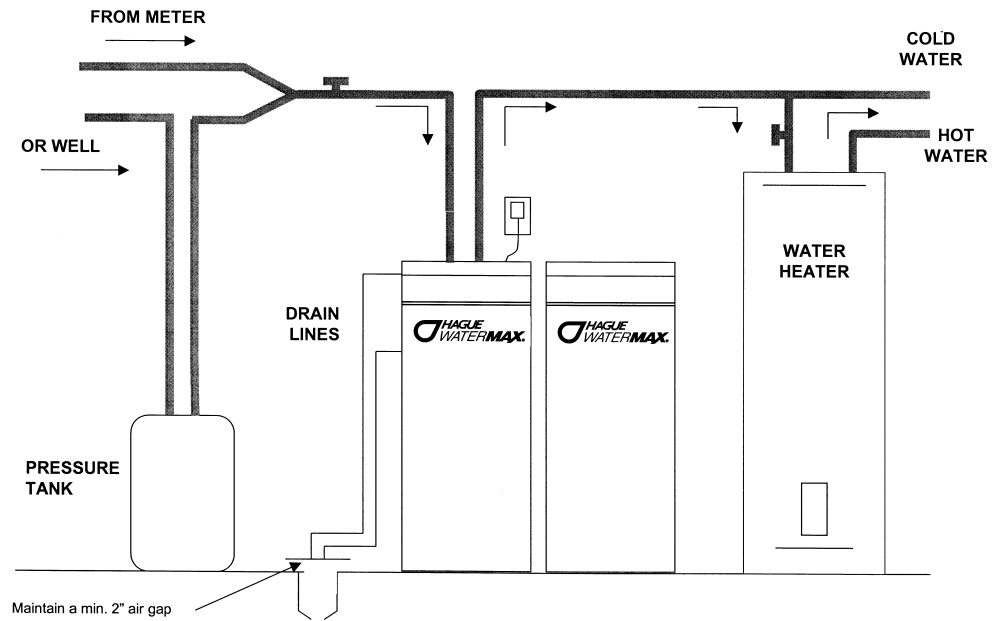

Figure 1
1. Do install after the pressure tank and not between the well pump and pressure tank. (See Fig. 1, pg. 3.)